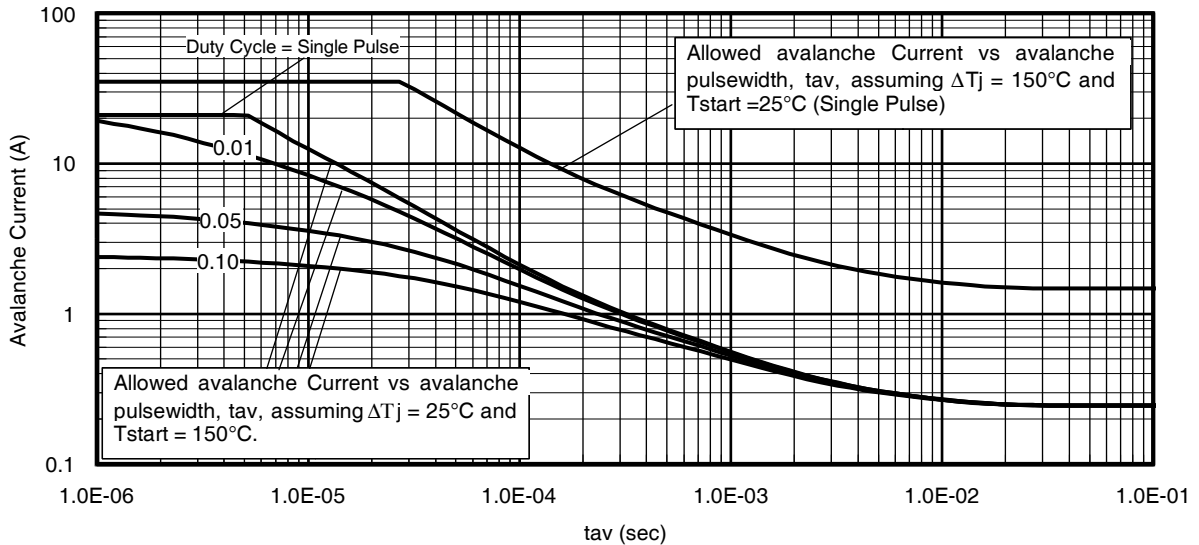

Fig 14. Typical Avalanche Current Vs. Pulsewidth
- ① Repetitive rating; pulse width limited by max. junction temperature.
- ② Starting $T_J = 25^\circ\text{C}, L = 0.51mH, R_G = 25\Omega, I_{AS} = 21A$.
- ③ Pulse width $\leq 400\mu s$; duty cycle $\leq 2\%$.
- ④ R_{θ} is measured at T_J of approximately 90°C .
⑤ Limited by T_{jmax} . See Figs. 14, 15, 17a, 17b for repetitive avalanche information
⑥ When mounted on 1" square PCB (FR-4 or G-10 Material). For recommended footprint and soldering techniques refer to application note #AN-994.
Notes on Repetitive Avalanche Curves, Figures 14, 15:
7. ΔT = Allowable rise in junction temperature, not to exceed T_{jmax} (assumed as 25°C in Figure 14, 15).